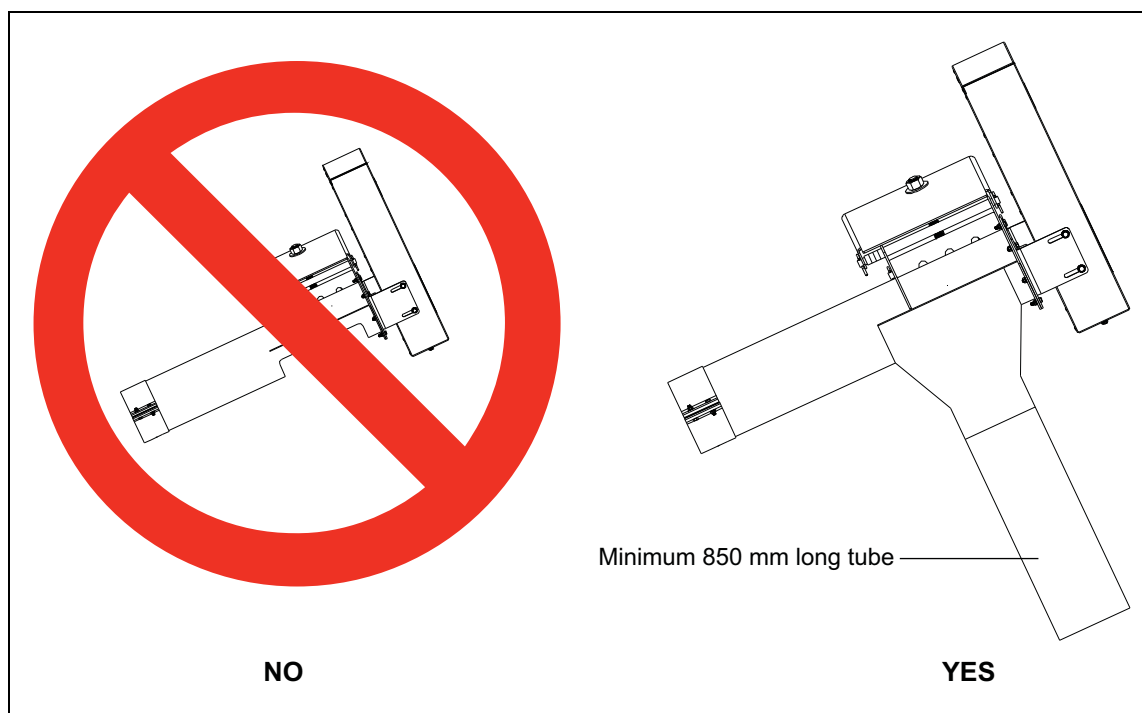

Figure 1D
2. End and intermediate outlet guarding. *(See Figure 1D.)*